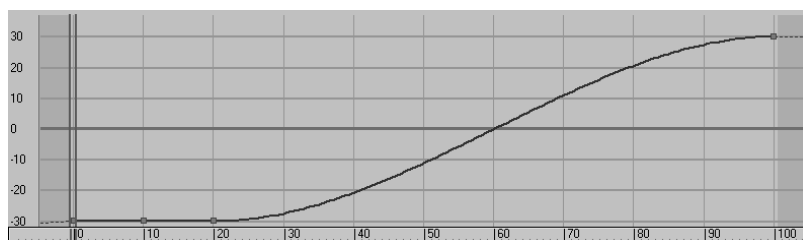

Figure 8.23
3. Don't play the animation yet; it isn't going to look right. Go to the Curve Editor, scroll down in the Controller window, and select the X Position track for the ball (Figure 8.23).